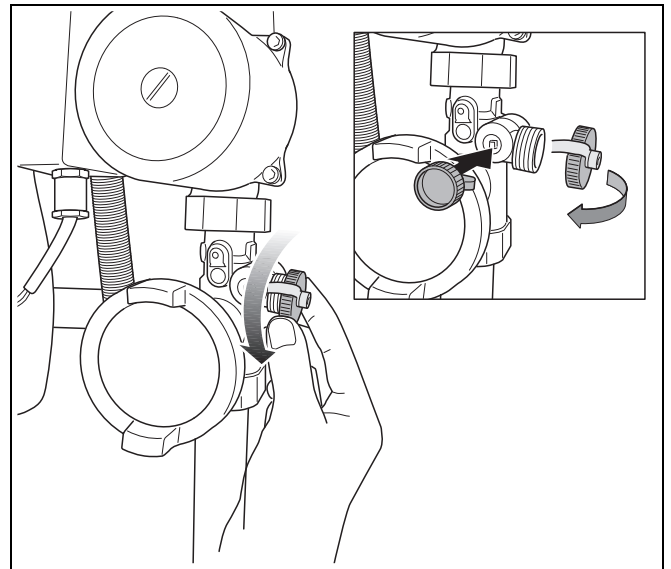

fig. 9 Removing cap from drain cock
- Unscrew the sealing cap (fig. 9).